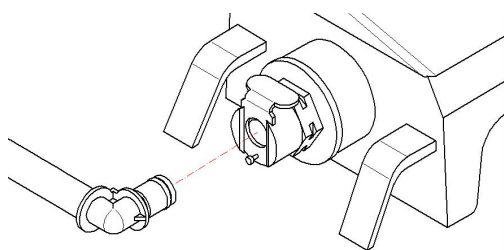

Fig. 1
Do not forget to **connect the water pipe** by pressing it until you hear a “click” (Fig. 1).
- Mount only the small tank filled with liquid and make sure you have connected the water pipe by pressing until you hear the “click” (Fig. 1)